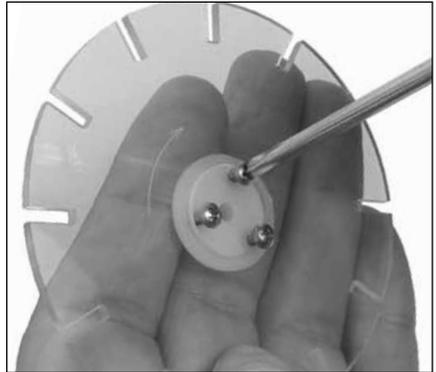

Figure 4
6. Holding these together, start all three screws (that come with the hub) in the holes at the hub's edge. With a small Phillips screwdriver, fasten all three screws completely down (Figure 4).